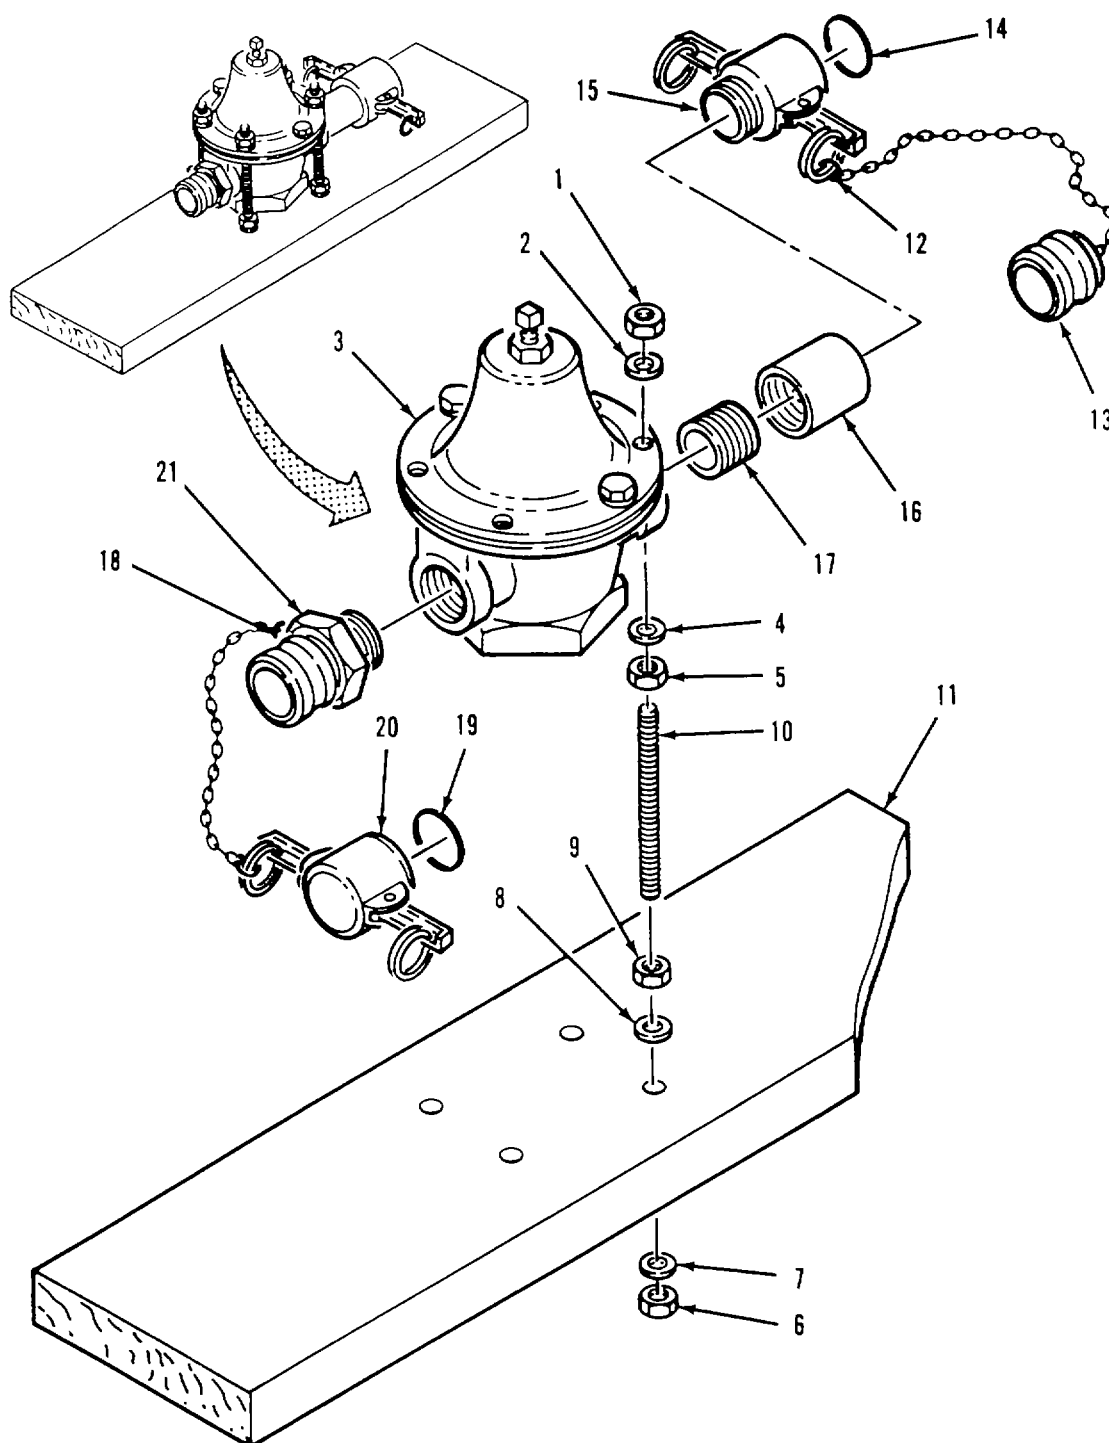

Figure 4-10. Water Pressure Regulator Disassembly.
- a. Disassembly. Refer to figure 4-10.
Remove regulator assembly from mount. Refer to figure 4-10.
Install regulator assembly on mount. Refer to figure 4-10.